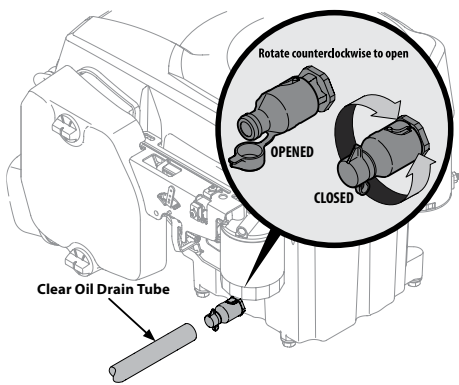
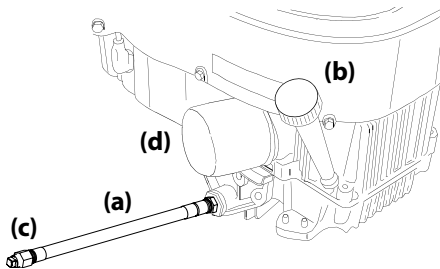

Figure 4-1
Figure 4-2
4. Your engine is equipped with either a twist-and-pull oil drain (see Figure 4-1 and go to Step 5.) or a removable oil drain hose plug (see Figure 4-2 and go to Step 6.) Follow the applicable instructions for your tractor.
5. Twist-and-pull oil drain (refer to Figure 4-1):
6. Removable oil drain hose plug (See Figure 4-2):
- a. While holding the free end of the oil drain hose (a) over the oil collection container, unscrew the square head hose plug (c) from the end of the oil drain hose (a). See Figure 4-2. Drain the engine oil into the collection container.